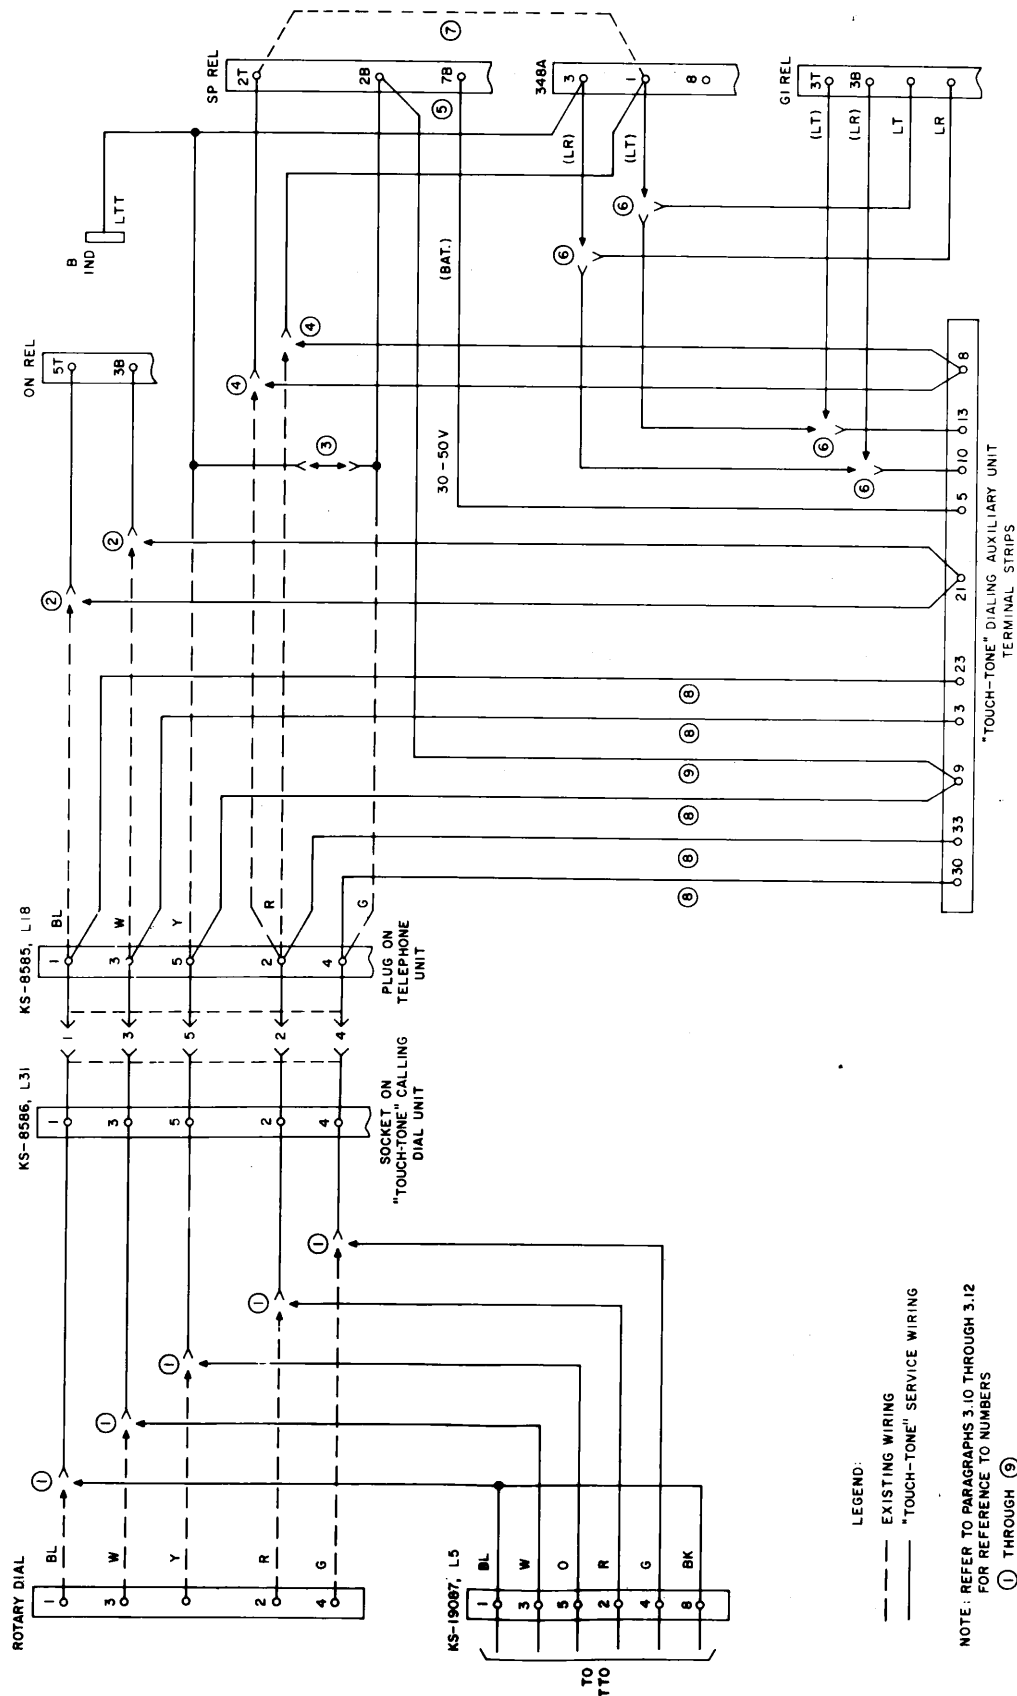

Fig. 21 — TOUCH-TONE Dialing Equipment Connections for 557A PBX
List 31 dial and telephone socket, by splicing and taping the leads from the KS-19087 connector (1 Fig. 21) to the leads of the KS-8586 socket that were previously cut near the terminals of the rotary dial connect block.
(2) Remove wire from terminals 1 and 3 of the KS-8585, List 18 plug on the telephone unit and connect to terminal 21 of the TOUCH-TONE dialing auxiliary unit (2 Fig. 21).
(3) Remove wire from terminals 4 and 5 of the KS-8585, List 18 plug and splice together (3 Fig. 21).
(4) Remove wires from terminal 2 of the KS-8585, List 18 plug and connect to terminal 8 of the TOUCH-TONE dialing auxiliary unit (4 Fig. 21).
(5) Connect battery from terminal 7B on SP relay to terminal 5 of the TOUCH-TONE dialing auxiliary unit, using option E for 30 to 50 volts (5 Fig. 21).
(6) Connect leads from terminals 1 and 3 of the 348A plug to either terminals 10 and 13 on the auxiliary unit or, if the grouping circuit is used, connect leads from terminals 1 and 3 of the 348A plug to terminals 3T and 3B of the G1 relay (6 Fig. 21).
- (7) Remove wire between terminal 1 of the 348A plug and 2T of SP relay (⑦ Fig. 21).
- (8) Connect new wiring between terminals 1, 3, 5, 2, and 4 of the KS-8585, List 18 plug, to terminals 23, 3, 9, 33, and 30 of the auxiliary unit respectively (⑧ Fig. 21).
- (9) Connect a lead from terminal 9 of the auxiliary unit to terminal 2B of SP relay (⑨ Fig. 21).